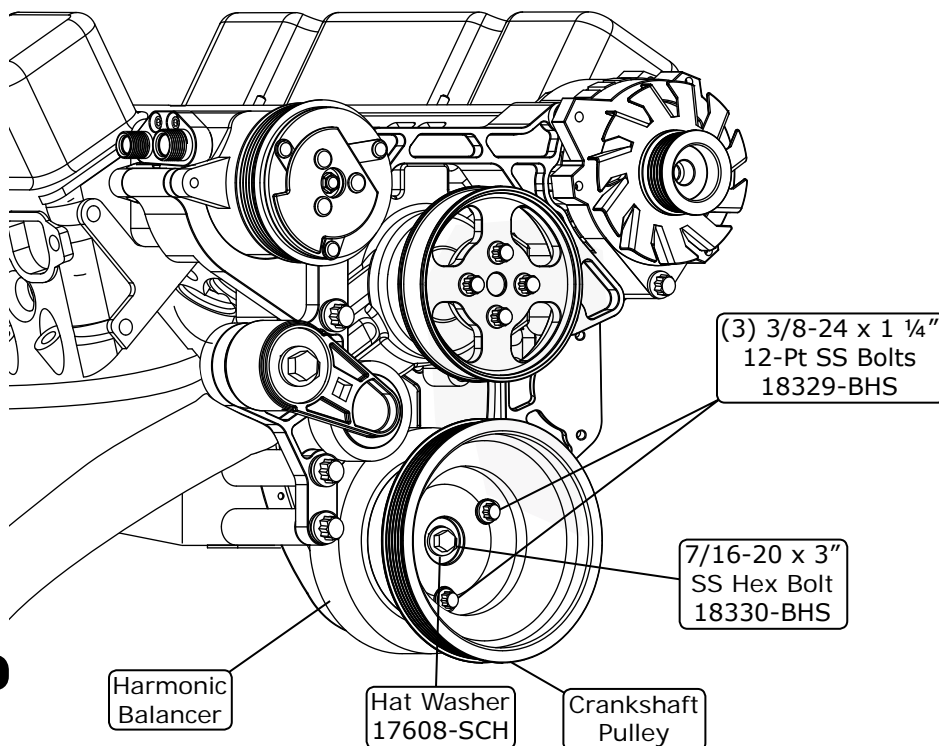

Figure 11
1. Install the crankshaft pulley onto the harmonic balancer using (3) 3/8-24 x 1 1/4" 12-Pt SS bolts. Torque to 25 lb ft. Secure the crankshaft pulley to the crankshaft snout with a hat washer and a 7/16-20 x 3" SS hex bolt (See Figure 11, below). Torque to 85 lb ft.